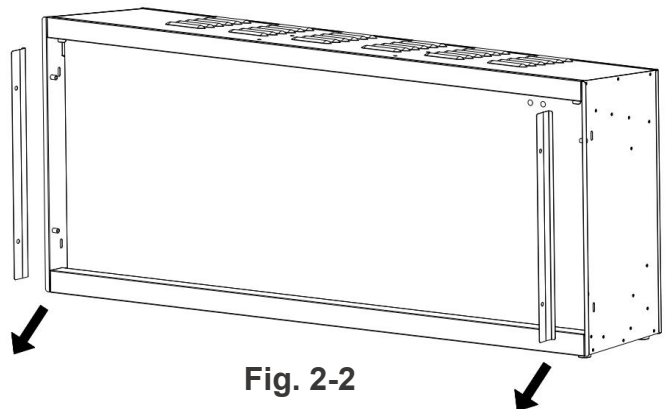
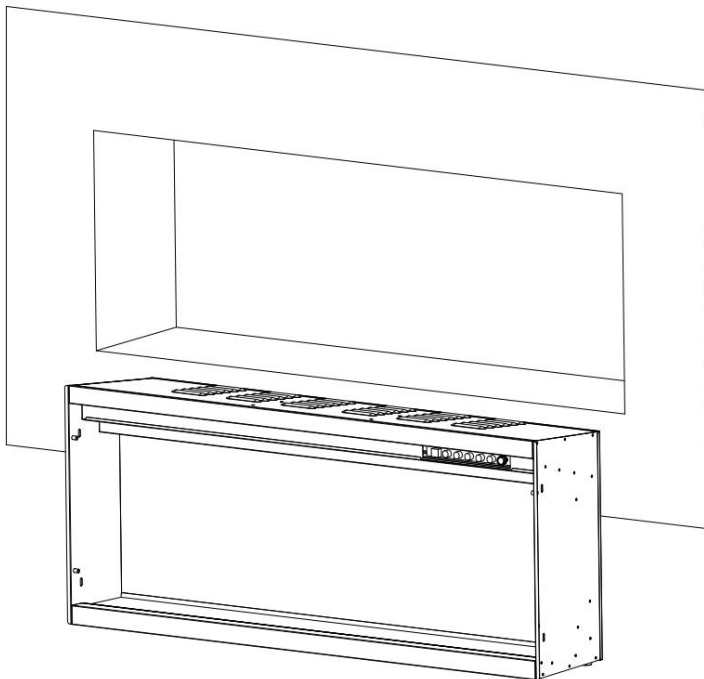

Fig. 2-2
Fig. 3-1
- Carefully take the metal bracket(s) away from the appliance. Place it face down on a soft, non-abrasive surface. (Fig. 2-2)
B. Insert the fireplace into the rough-in frame and then secure it by installing 4 wood screws (B) through the holes (Fig. 3-1, Fig 2-2).